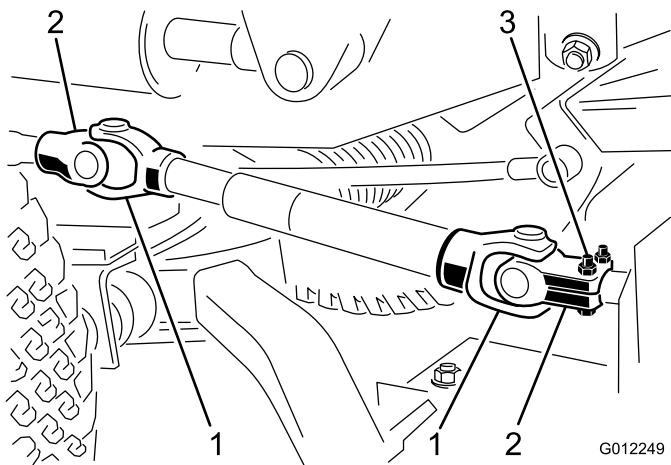

Figure 11
1. Line up the holes in the yoke and input shaft of the gear box. Slide the yoke onto the shaft and secure them together with a roll pin and 2 capscrews (5/16 x 1-3/4 inches) and locknuts (5/16 inch) (Figure 11).